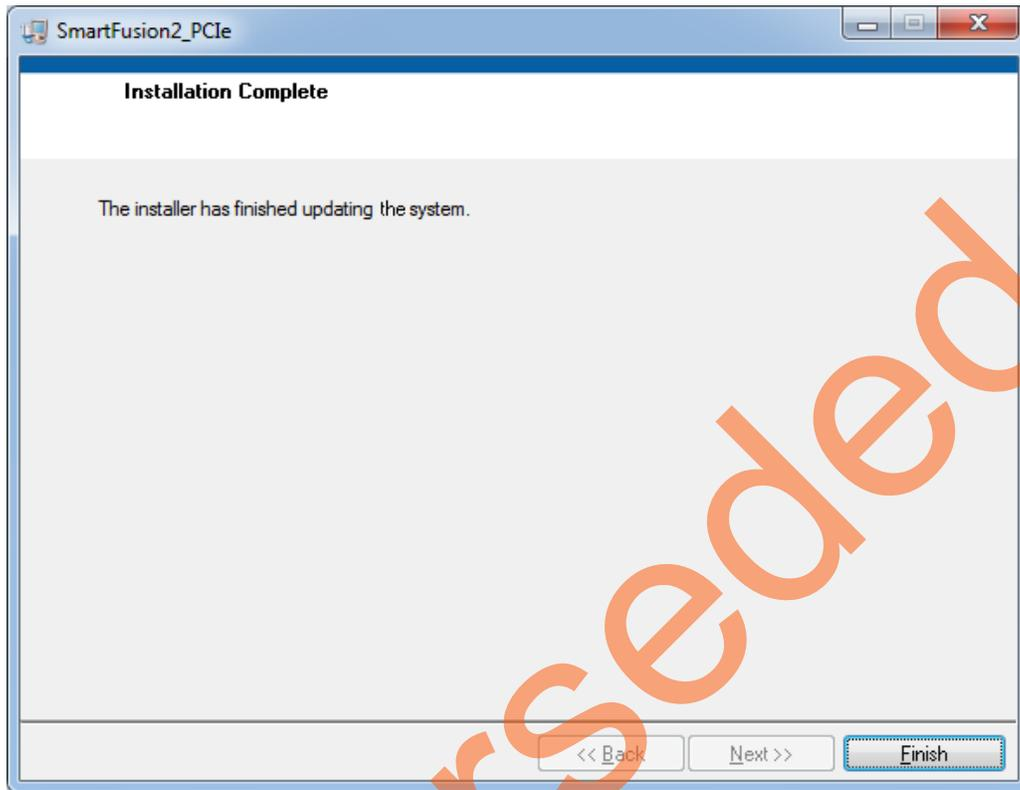

Figure 17 • Successful GUI Installation
4. Click **Next** and **Finish** to complete the installation. Figure 17 shows the **Successful GUI Installation** window.